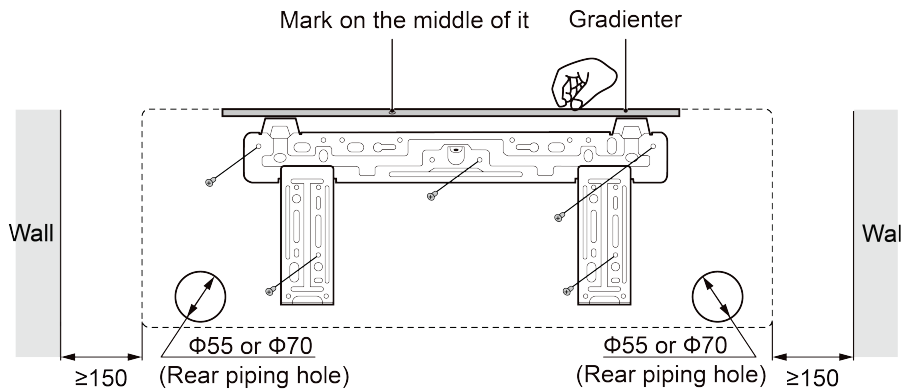

Fig 4.2
- ① Find the horizontal position with the gradienter; Since the drainage pipe is on the left side, it is necessary to adjust the rear panel to make its left side a little bit lower.
- ② Fix the rear panel on the wall by bolts.
- ③ After installing the rear panel, pull it by hands to check if it is secured enough. The hang panel should support the weight of an adult (60kg), and the weight shared by every bolt should be fairly even.
- ④ The diameter showed in Fig.4.2.
- (1) Make the piping hole (Φ55mm or Φ70mm) in the wall at a slight downward slant to the outdoor side. The center of the hole should be determined referring to Fig.4.2.
- (2) Insert the piping-hole sleeve into the hole to prevent the connected piping and wiring from being damaged when passing through the hole.